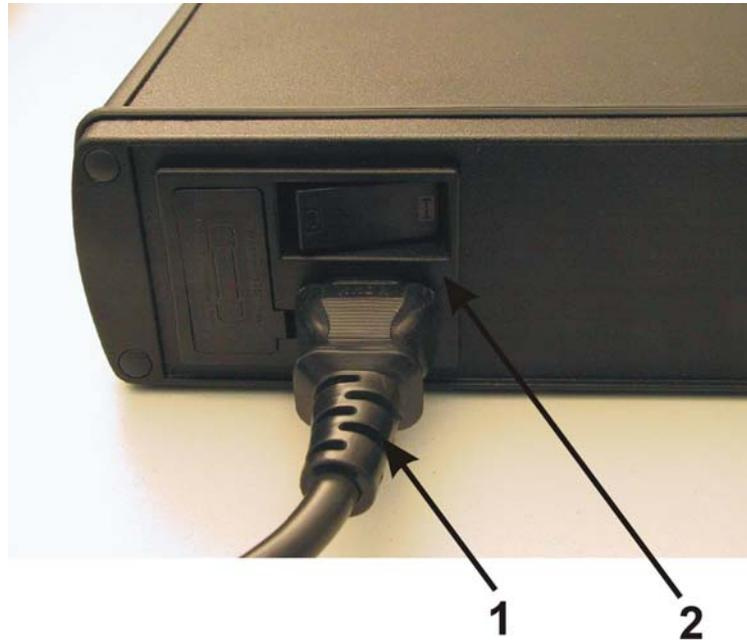

Figure 6: Power connector and On-/Off-switch at the rear of the PowerBox
- Plug the supplied power cable to the power connector on the rear of the PowerBox (Figure6, 1) and connect it to a wall socket. The PowerBox can operate from 100 – 240 VAC / 47 -63 Hz. You can use the PowerBox with AC voltages of european standard (230 VAC) and US standard (110 VAC)
- Switch the PowerBox on with the On-/Off-switch located at the rear (Figure 6, 2). The power LED (Figure 7) lights and the camera starts.